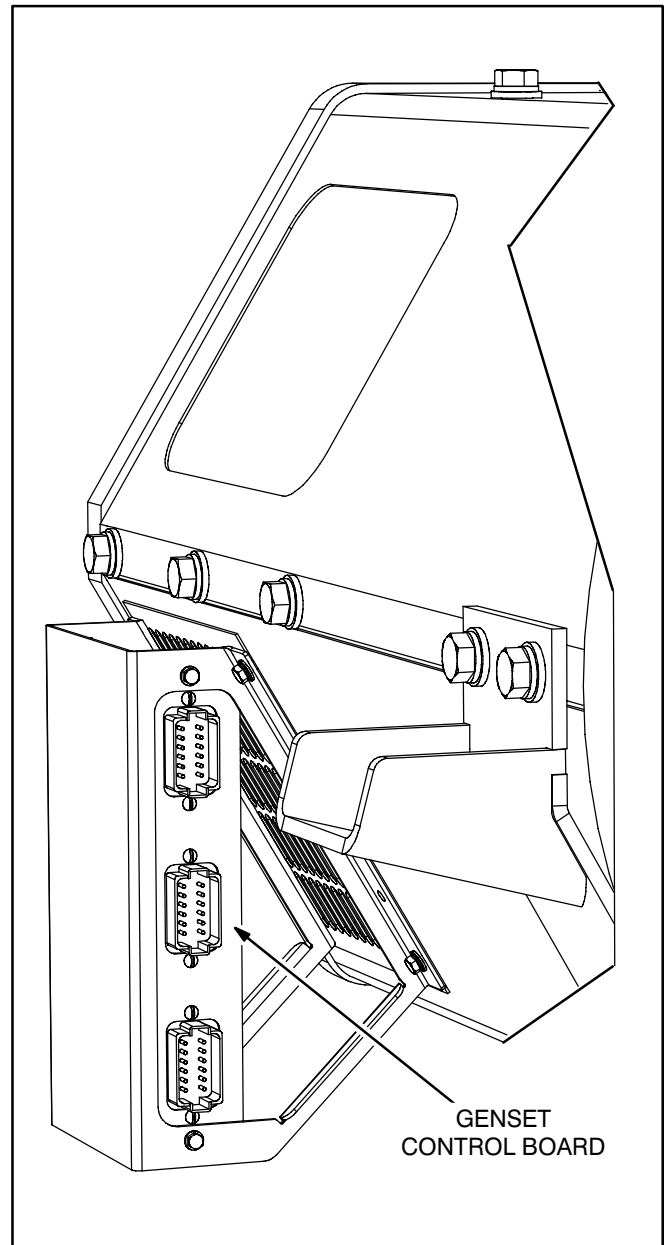
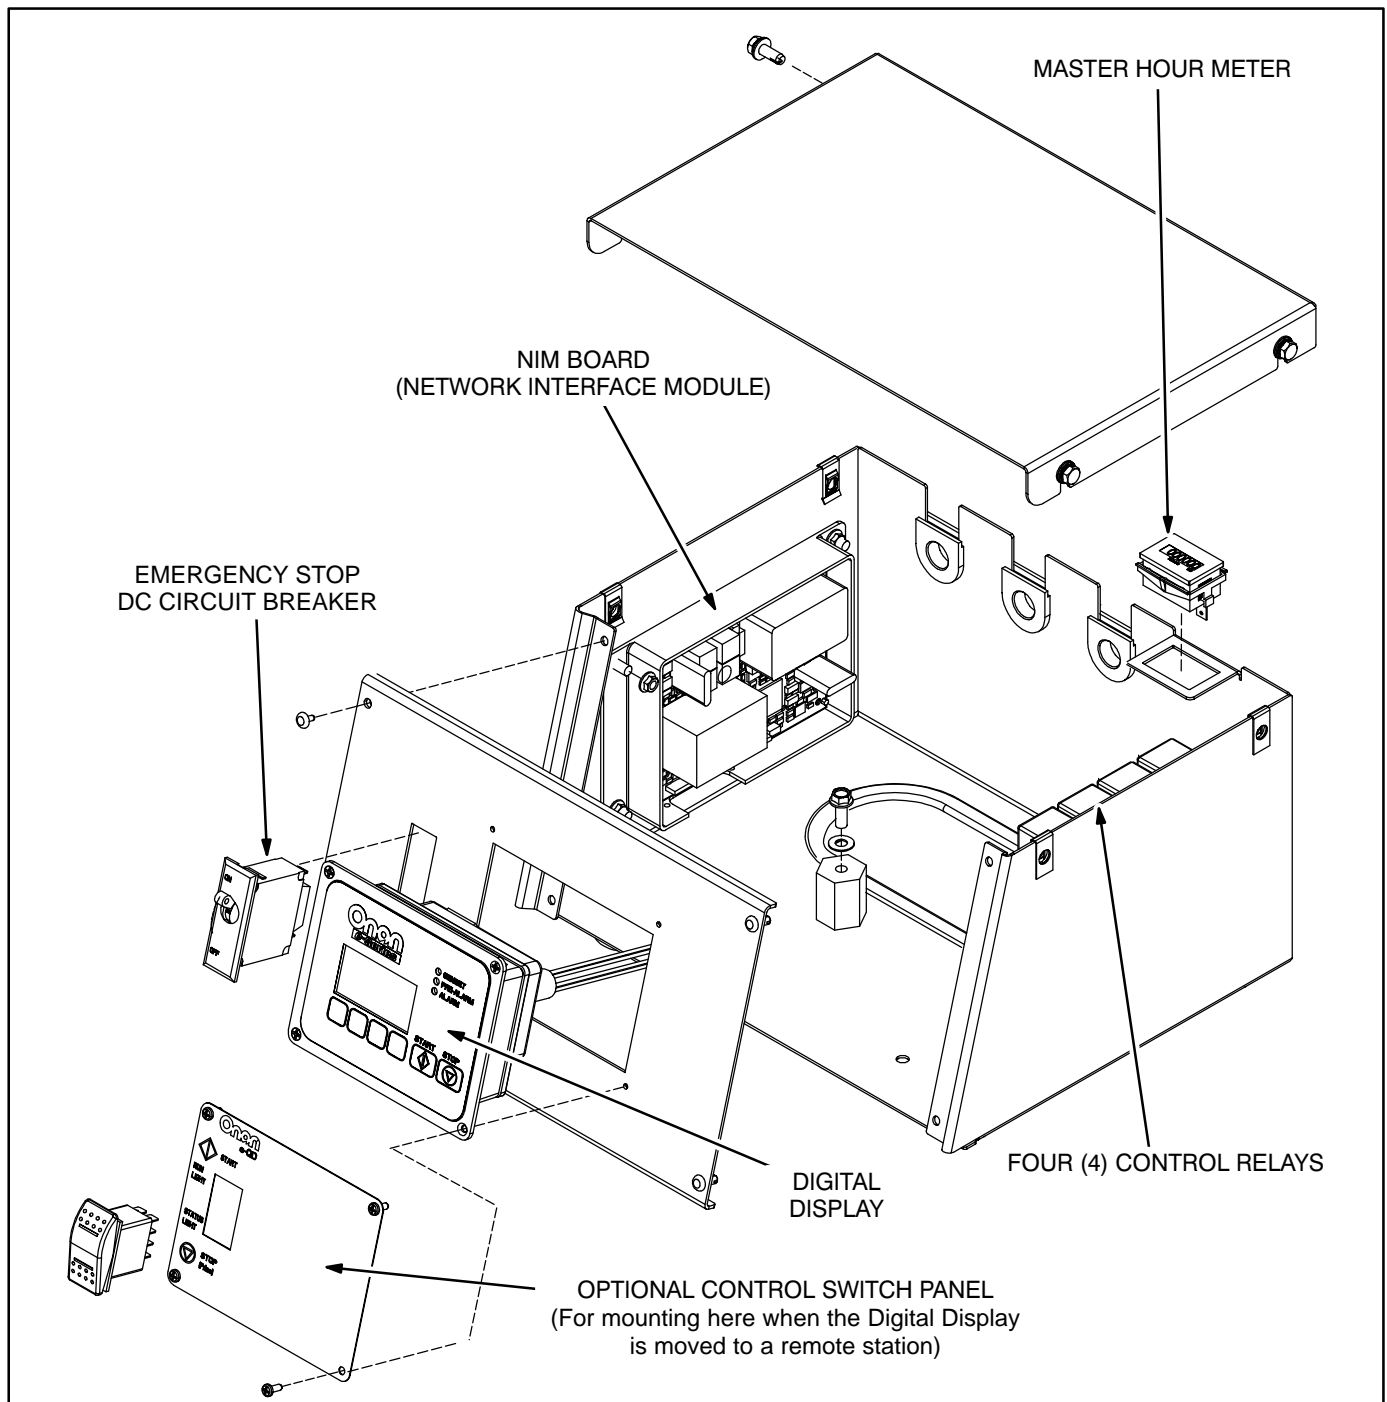
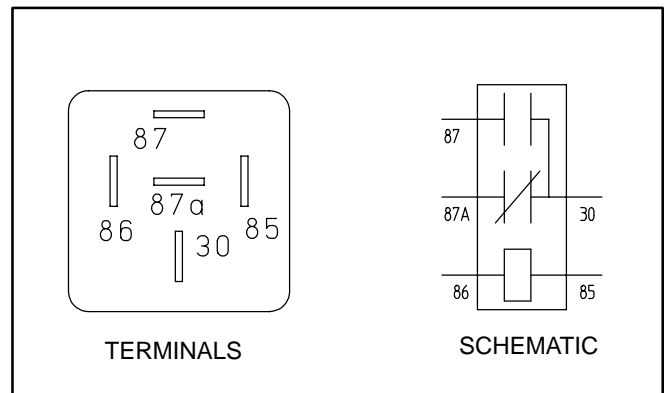
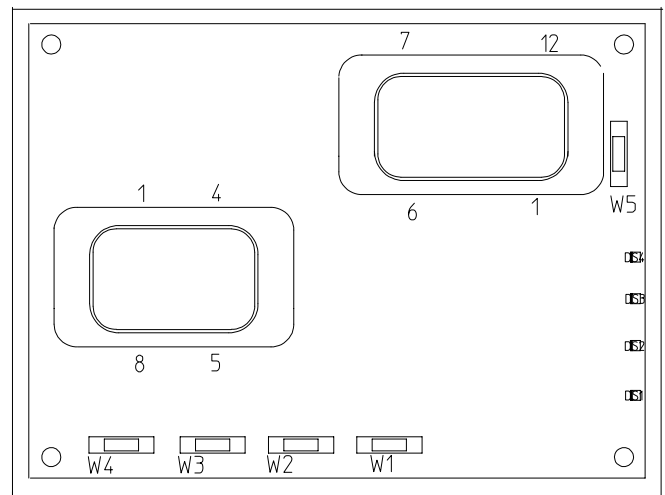

FIGURE 5-1. GENSET CONTROL BOARD
FIGURE 5-3. CONTROL BOX COMPONENTS
FIGURE 5-5. CONTROL RELAYS
FIGURE 5-6. NIM CONFIGURATION JUMPERS
Figure 5-1 illustrates the location and mounting of the genset control board and Figure 5-3 the components inside the control box. The control board has a microprocessor-based controller that provides all the control, monitoring and diagnostic functions required to operate the genset. The genset controller talks to the engine control module (ECM), which is engine mounted (p. 7-1), through the Network Interface Module (NIM) mounted in the control box (Figure 5-3).
Up to three Onan e-Series Digital Displays (Figure 5-3) may be connected to the genset. The NIM has a connector for external SAE J1939 data link connections to an integrated boat monitoring system.
Three connectors (**P1/J1**, **P2/J2**, **P3/J3**) are used for all connections between the control board and wiring harness (Figure 5-1). When separating the connector, use a small flat-bladed screwdriver to lever out the catch.
Figure 5-3 illustrates the components inside the
Either a Digital Display or control switch panel may be mounted on the control box (Figure 5-3). See DIGITAL DISPLAY (p. 2-3) regarding function. Up to three Digital Displays may be connected in the system. See Pages A-1 and A-4 for connections.
These relays are located and mounted as shown in (Figure 5-3). To test a relay, apply 12 VDC across terminals 85–86 (Figure 5-5). Replace the relay if 30–87 (NO) does not close or 30–87a (NC) does not open, or either does not return to its normal position when power is removed.
The master hour meter is located and mounted as shown in (Figure 5-3). See Page 2-9 for instructions on how to synchronize run time on a replacement controller with the master hour meter.
The circuit breaker is located and mounted as shown in (Figure 5-3). Replace a circuit breaker that does not open or close or reset.
The NIM board is located and mounted as shown in (Figure 5-3) and is connected as shown on Page A-1. It has five jumpers to configure the board for the specific application (Figure 5-6). Make sure a replacement board is configured the same as the old one.